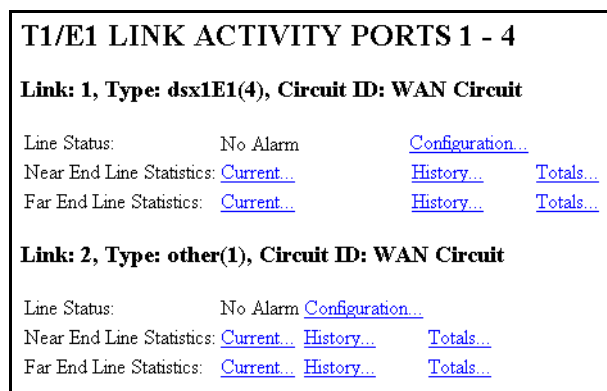

Figure 43. T1/E1 Link Activity Ports 1 – 4 page.
2. *View Link 1* corresponds to the first WAN circuit on the T-DAC. To the right of *View Links 1-4* click the *View Links...* hyperlink to open the T1/E1 LINK ACTIVITY PORTS 1 – 4 page (figure 43).